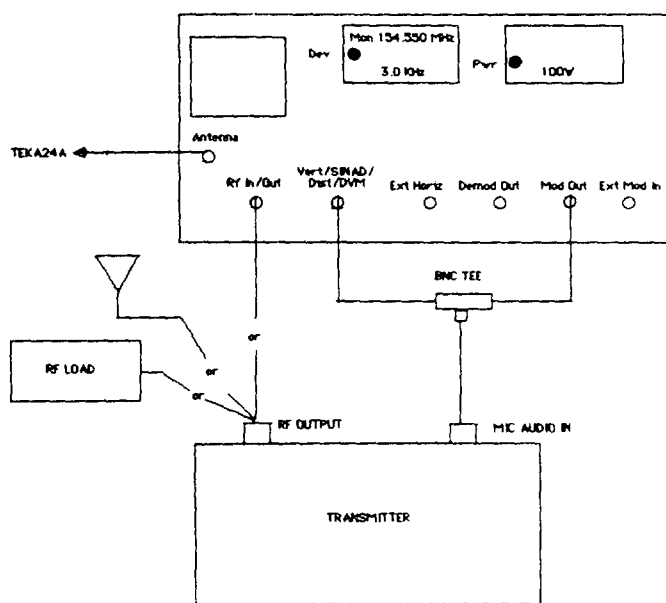

FIGURE 5.6—TRANSMITTER TESTS SETUP
1. Connect the service monitor's "RF In/Out" port to the RF output of the unit under test and make the other connections as shown in figure 5.6.
2. Operate the transmitter under test either into its own antenna or into a dummy RF load, as shown in figure 5.6.
1. Referring to Figure 5.6, insert a fixed power attenuator between the RF output connector of the transmitter and the "Antenna" port of the R-2400. The power rating of this attenuator must be at least equal to the rating of the transmitter, and a minimum of 30 dB attenuation. The **input power** to the antenna port **must not exceed 0.5 watt**.